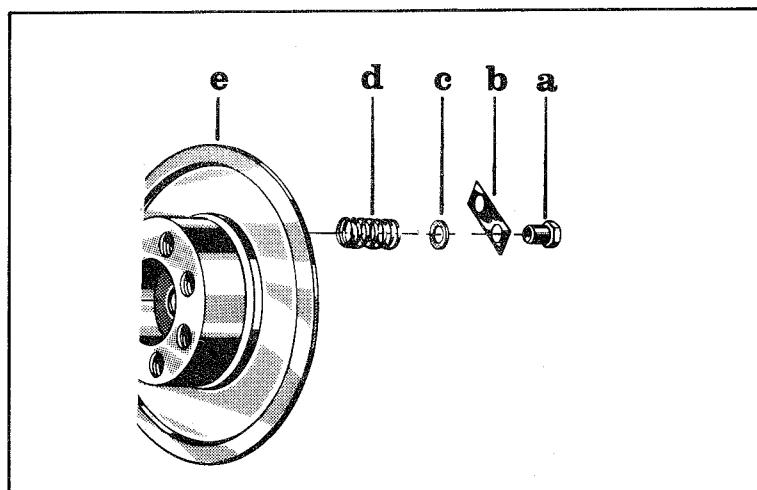

Fig. 2
See Fig. 2.
2. Heat the crankcase half in an oven to approximately 130°C (270°F). A blowpipe or bunsen burner may also be used, Fig. 2 a, but it is then important to make sure that the halves are evenly heated.
Fig. 2 a
When the above temperature has been reached the bearings will probably drop out of their seats. If not, tap the crankcase half against a block of wood or the like. See Fig. 2 b.
Fig. 2 b